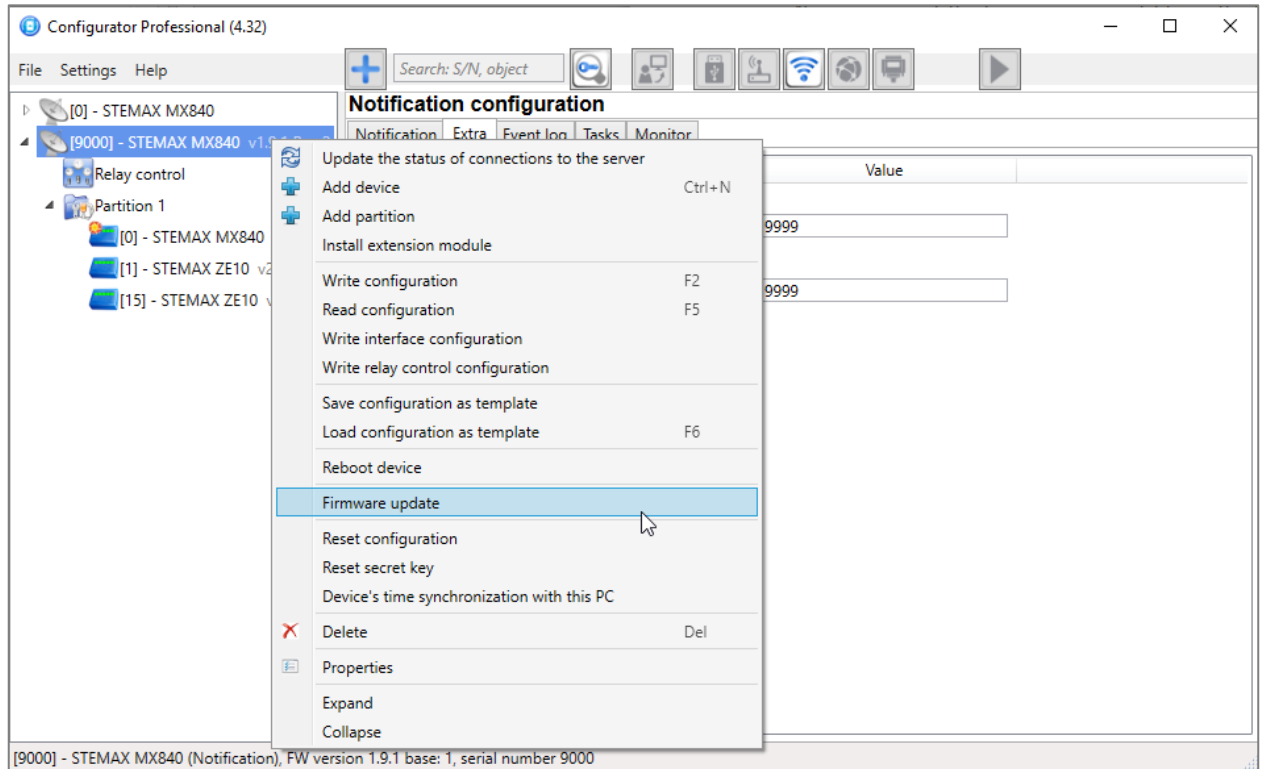

Figure 6.1. The STEMAX MX840 controller context menu
2. Right-click on the controller name in the device tree and select *Firmware update* in the context menu (see figure 6.1).